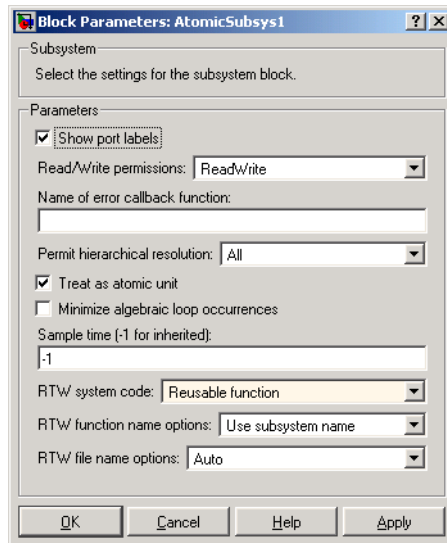

Figure 4-5: Subsystem Reusable Function Code Generation Option
- 3 Select **Reusable** function from the **RTW system code** menu as shown in Figure 4-5.